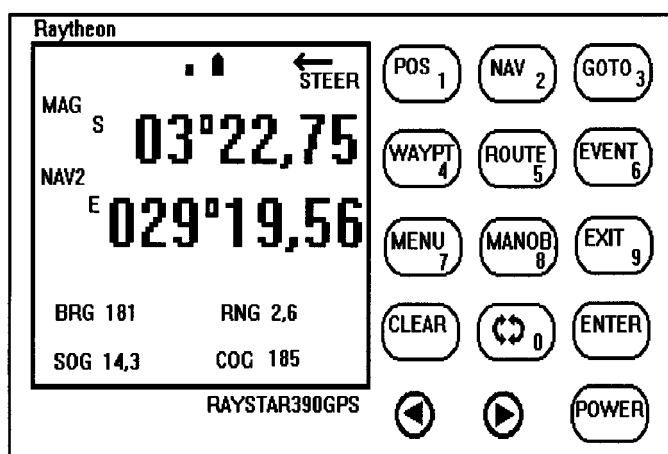

Figure 2: Event is stored in memory location 004.
2) Then the recorder presses the **EVENT** key and records the number of the cylinder and the deposit position (latitude and longitude). The **EVENT** key stores boat's present position. It is stored as a **WAYPOINT** into the next available memory location of GPS. The number of GPS memory has to be written down. It appears immediately after pressing the **EVENT** key below the longitude as a title '**EVENT STORED IN WAYPOINT 004**' (Figure 2). The **EVENT** key can be used only when GPS is in **POS** or **NAV** mode.